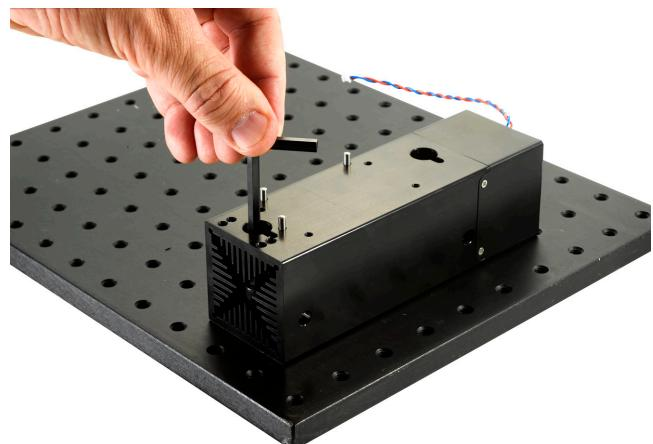

Figure 3-4. Torque the Mounting Screws
3. Torque the two mounting screws to 4.5 Nm (635 oz in), as shown in Figure 3-4.